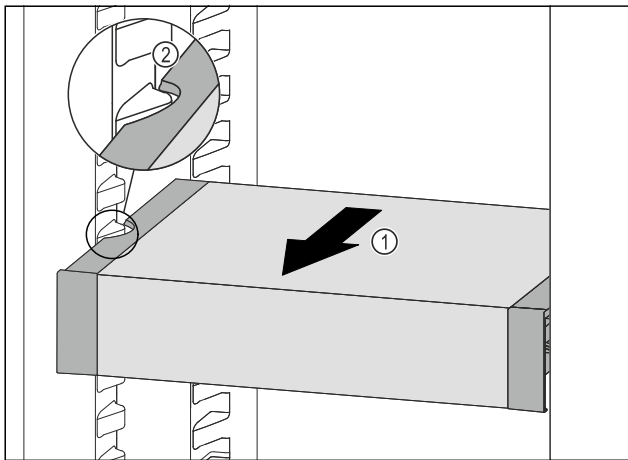

Fig. 200
- ▶ Pull VarioSafe forwards Fig. 200 (1) until the recesses in the side of the VarioSafe are at the level of the support rib in the fridge section. Fig. 200 (2)